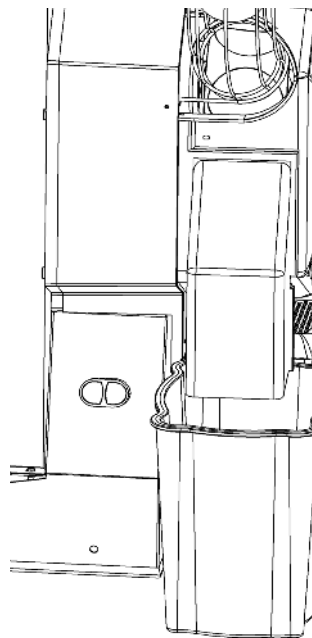

Figure 6
(Figure 6)
1- Press the red button on the on / off button (51) of your machine when the squeezing process is over (Figure 6).